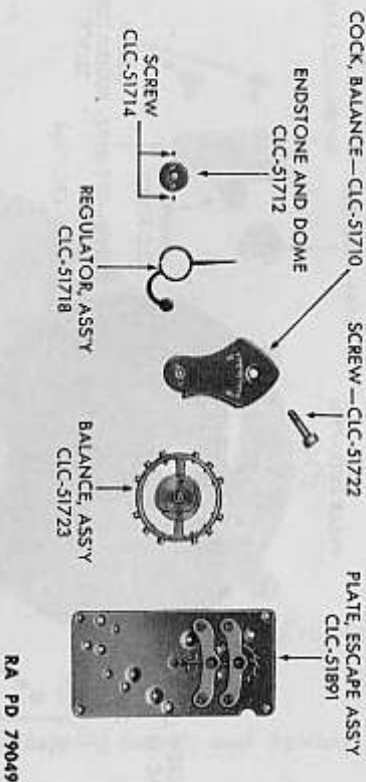

Figure 215 — Message Center Clock M1 — Balance Cock and Balance Assembly Removed
n. **Replace Balance Cock and Balance Assembly** (fig. 215). Place lower balance pivot in its jewel on the escape plate assembly. Place balance cock in its place on the escape assembly plate, aligning the upper pivot to its jewel in balance cock. Align the roller jewel to its position in the pallet assembly and secure balance cock in place with its screw. Place hairspring stud in cock and align the overcoil of hairspring between regulator pins simultaneously. Secure hairspring stud screw. **NOTE: The hairspring must be level when stud screw is secured.**